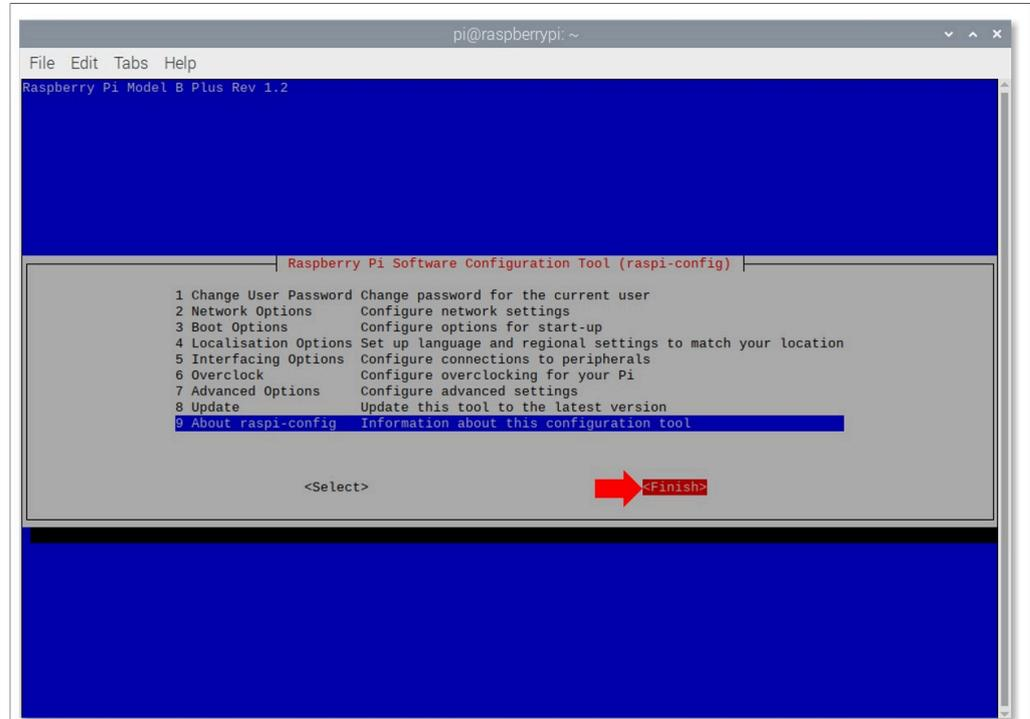

Figure 9. Close the Raspberry Pi software configuration tool
- Close the Raspberry Pi software configuration tool. Use the left and right arrow keys to select the Finish option and then press Enter, as shown in Figure 9: